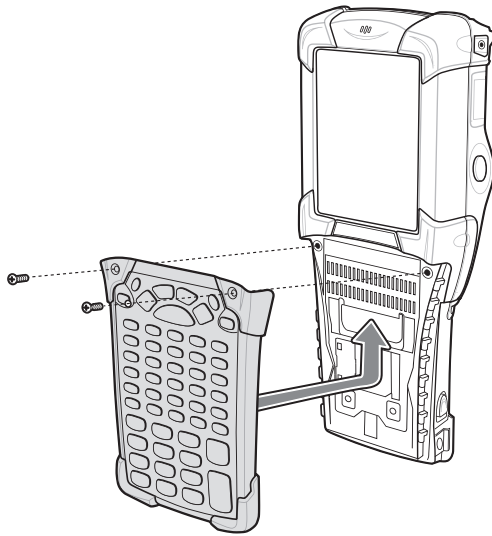

Figure 3-2 *Installing the Keypad*
6. Replace the keypad and re-attach using the two screws (see Figure 3-2 on page 3-4).